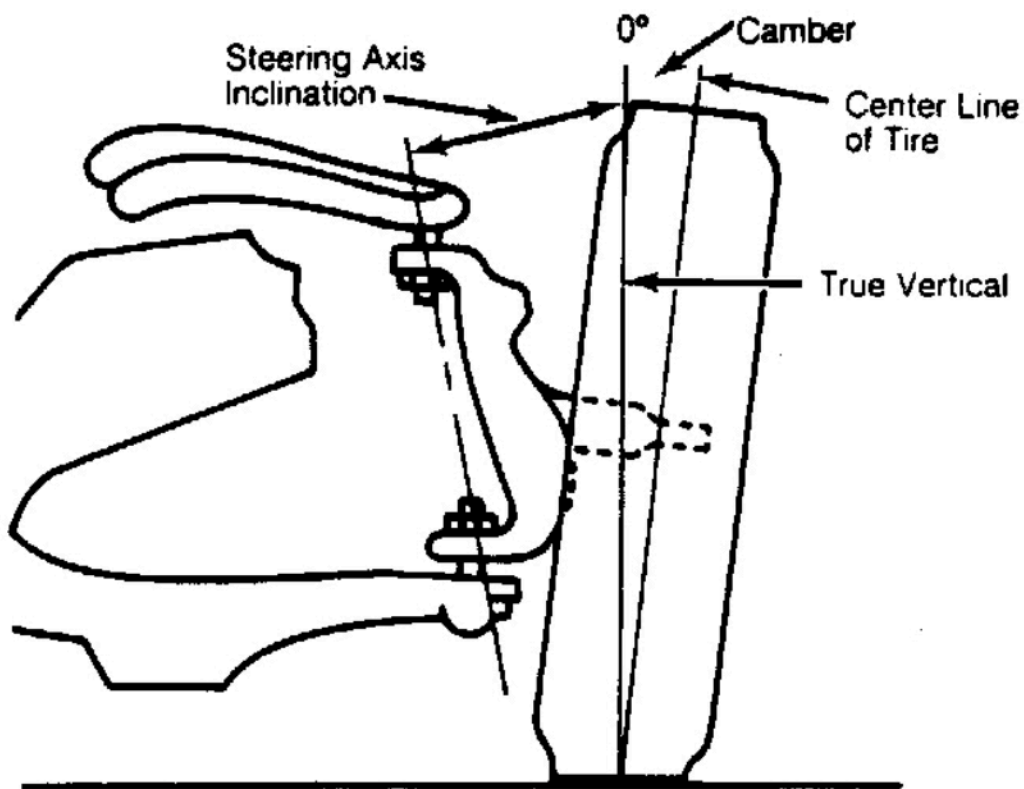

Fig. 6: Checking Steering Axis Inclination
1. Steering axis inclination is a check for bent or damaged parts, and not a service adjustment. Vehicle must be level and camber should be properly adjusted. See **Fig. 6**.